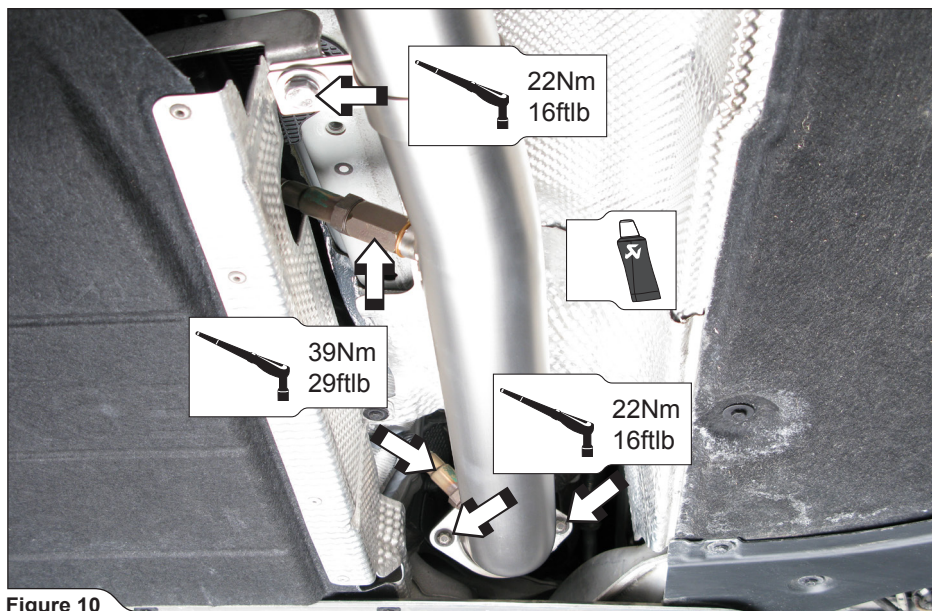

Figure 10
2. **For Evolution:** tighten the headers, header's clamps and lambda sensors to a specified torque (Figure 10).